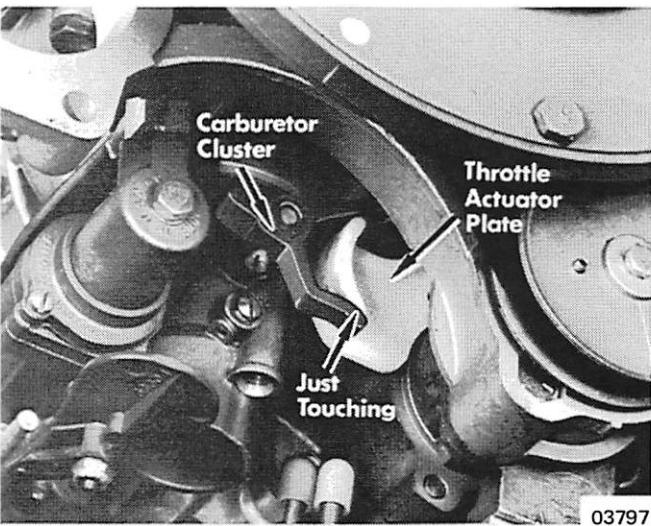

Figure 6. Primary Pickup Just Touching Arm on Carburetor Cluster
3. Slide throttle actuator plate forward so that primary pickup on throttle plate just touches primary pickup arm on carburetor cluster. (Figure 6) Tighten screws.